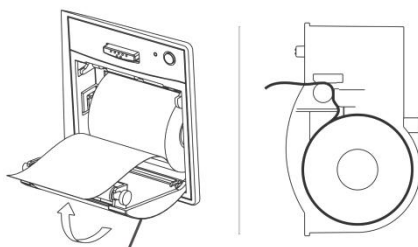

Figure 10.3 Install Recording Paper Diagram
2. Put the recording papers into the paper discharging port, with paper edge set outside the exit, see Figure 10.3.